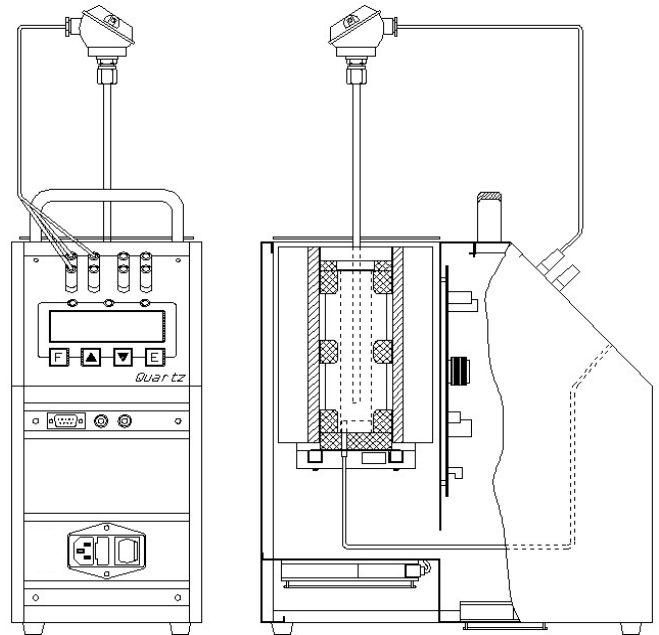

Fig.4
Make reference to the temperature value of the display (8) (figure 4).
Note: Figures 4 and 5 refer to the calibrator in version 21 with external sensors plugs.